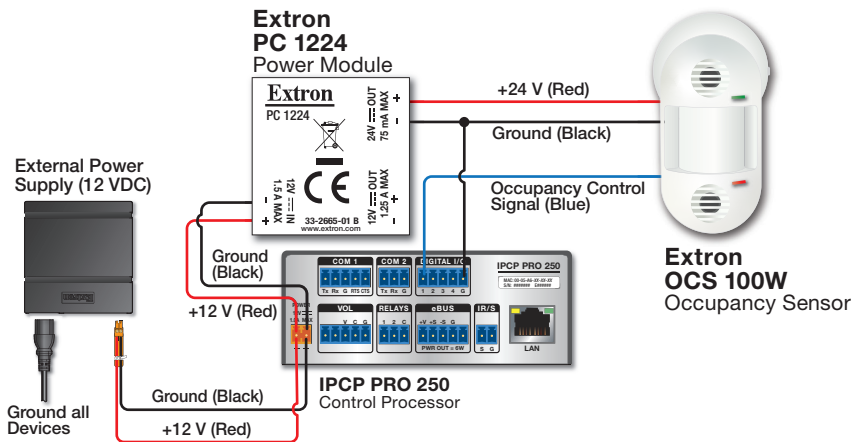

Figure 8. OCS 100W Wiring Diagram
1. Connect a 12 VDC power source to the 12 VDC input on the supplied PC 1224 power converter, (see figure 8).